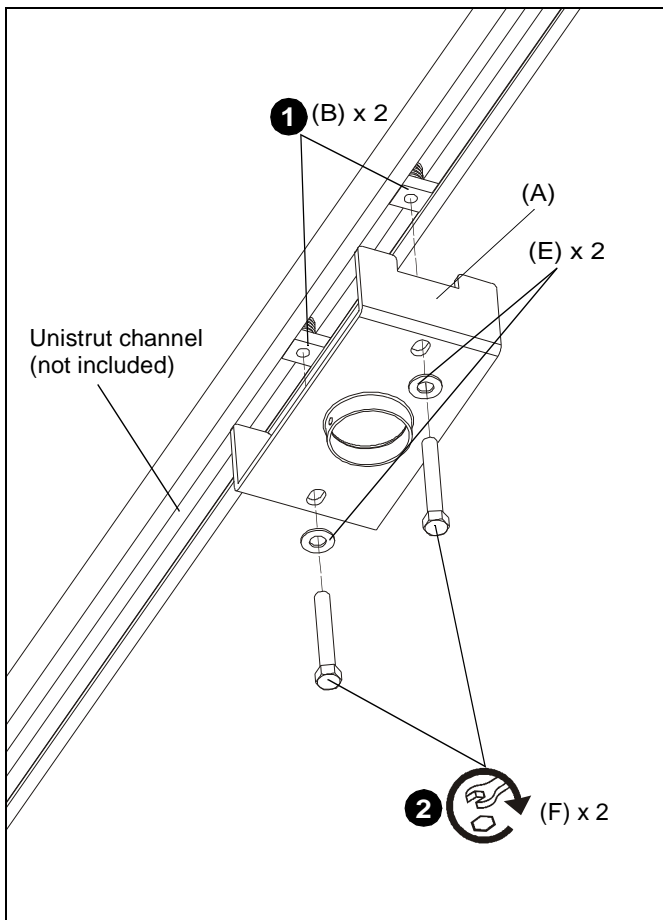

Figure 1
1. Insert two channel nuts with springs (B) into Unistrut channel. (See Figure 1)
2. Use two 3/18-16 x 2 1/2" hex head cap screws (F) and two 3/8" washers (E) to secure ceiling adapter (A) to Unistrut channel. (See Figure 1)